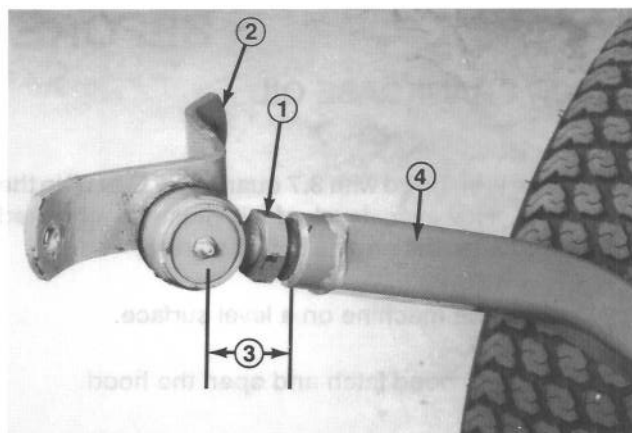

Figure 17
2. Screw ball joint into right hand push arm until center of ball joint is 2-3/8 inches (60 mm) away from front of push arm (Fig.17). Do not tighten jam nut.